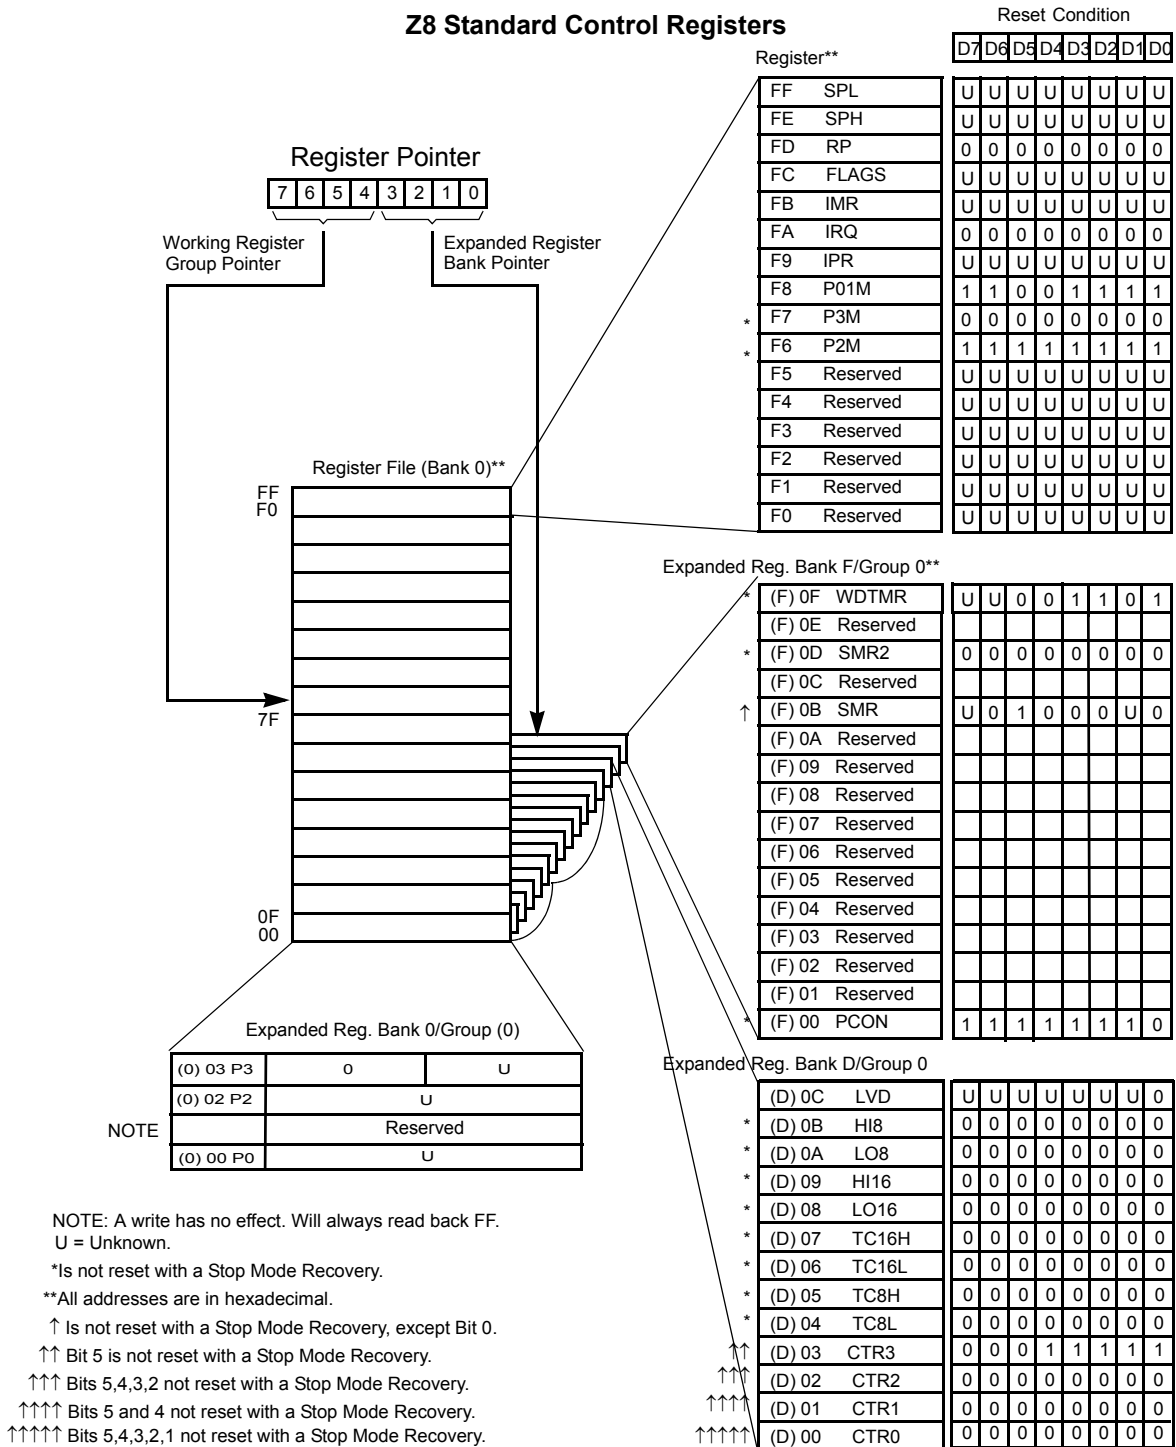

Figure 10. Expanded Register File Architecture
- **Note:** *An expanded register bank is also referred to as an expanded register group (see Figure 10 on page 18).*
Example: (See Figure 10 on page 18)